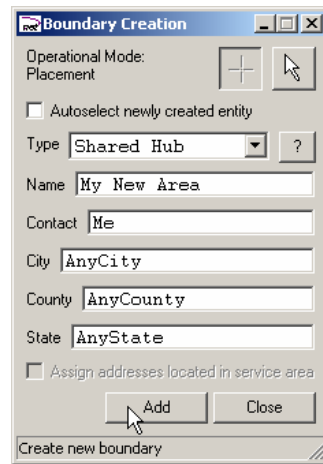
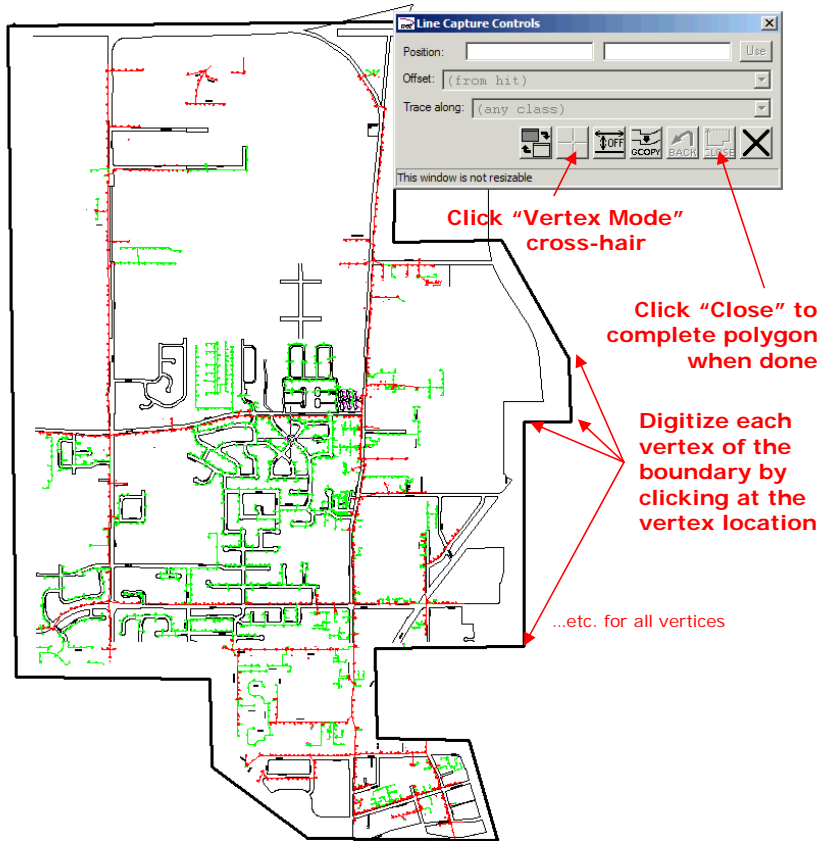

Figure 21 –Boundary Creation dialog box
Figure 22 – Capture Boundary Vertices
4. Click the **Add** button shown in Figure 21. This will bring up the **Line Capture Control** panel, as shown in Figure 22, below.
5. With the **Vertex Mode** cross-hair button selected in the **Line Capture** control panel (see Figure 22, below), click on each point at which you wish to place a vertex of the boundary.
6. Click the **Close** button as shown in Figure 22, below when done. This will close the boundary polygon geometry and complete the addition of the new boundary.